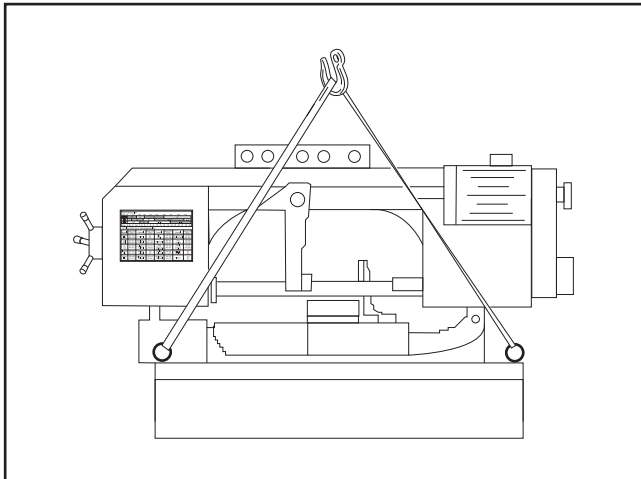

Figure 12. Example of lifting straps attached to lifting locations.
2. Attach lifting straps to lifting locations shown in **Figure 12**.